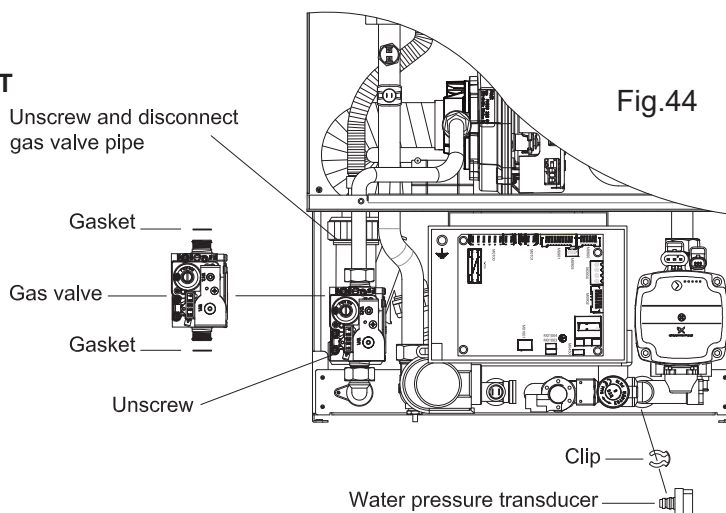

Fig.44
8.9 TO REMOVE/REPLACE GAS VALVE (Fig. 44)
8.10 TO REMOVE/REPLACE PLATE HEAT EXCHANGER (Fig. 44)